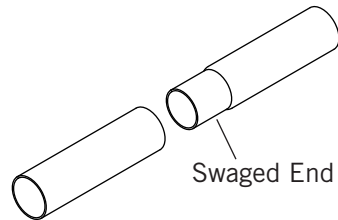

Figure 1
- 1) Figures 1 & 2.** Attach lengths of anchor pipe and weld together. Do the same with the roll pipe.